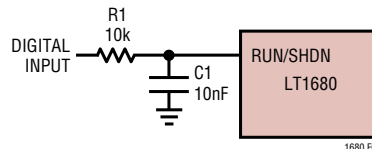

Figure 6. Digital Input Shutdown Integration Control
Figure 6 is an example of a digital control integration stage at the RUN/SHDN input. The integrator has a  $\tau = (10)(10^3) \cdot (10)(10^{-9}) = (1.0)(10^{-4})$ . This circuit technique, however, delays initiation of controller shutdown about  $125\mu\text{s}$  from the reception of the shutdown signal ( $5\text{V} - 0\text{V}$  transition).